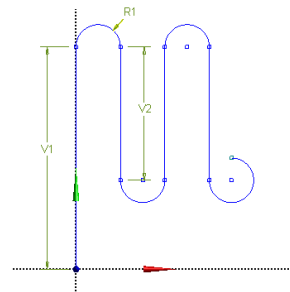

Figure 3-75 Sketch after all the dimensions are placed
- Place all other dimensions to their respective places, as shown in Figure 3-75.